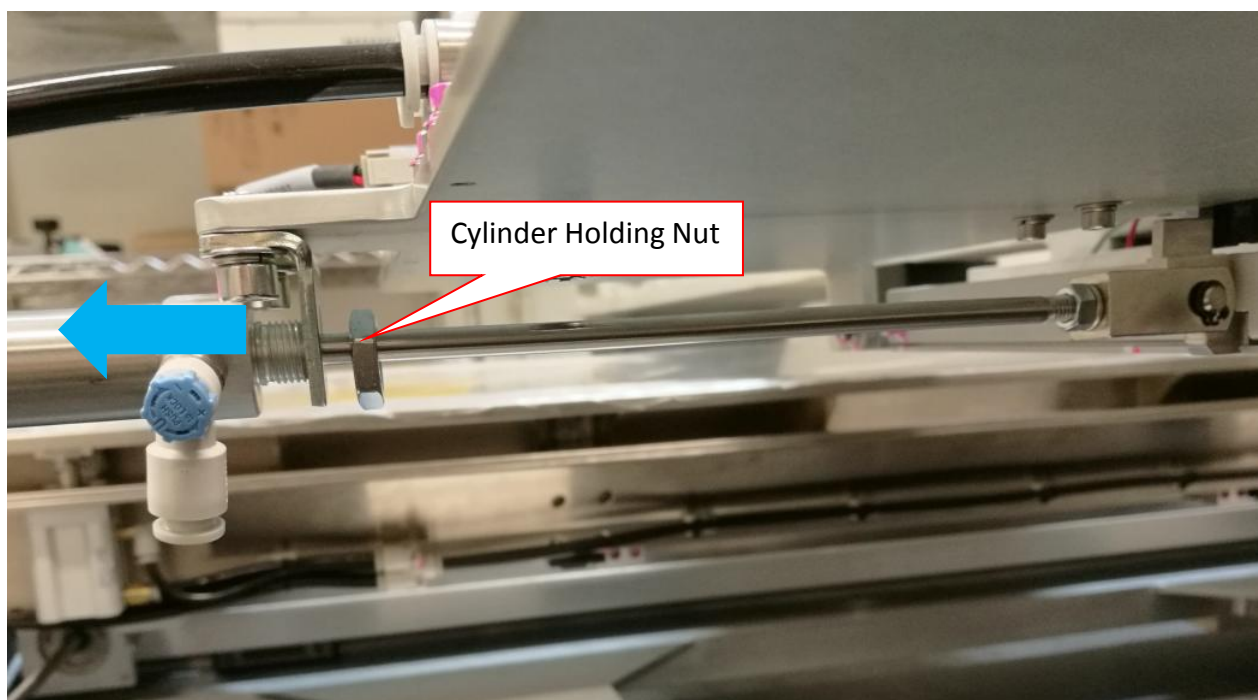

Figure 8 Inner barrier cylinder screw removal
16. Loosen Inner Barrier Cylinder Holding Nut. Gently pull out Inner Barrier Cylinder as shown in Figure 8